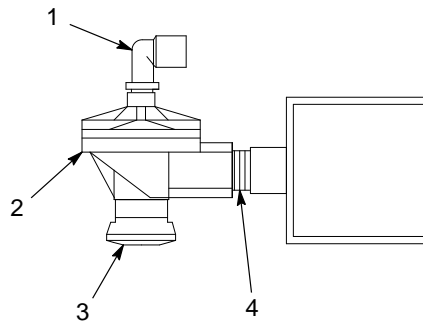

Figure 6-6 Pulse Valve Replacement
2. See Figure 6-6. Disconnect the pilot air tubing from the pulse valve tube fitting (1).
3. Unscrew the pulse valve (2) from the coupling (4).
4. Remove the tube fitting and nozzle (3) from the old valve. Wrap PTFE tape around the threads of the tube fitting and nozzle. Install the fitting and nozzle into the new valve.